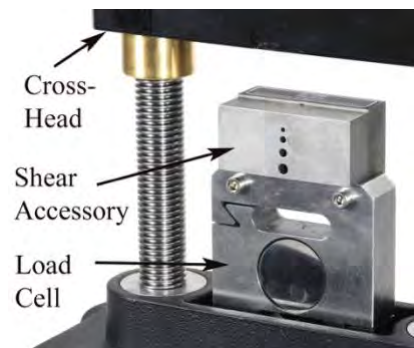

Figure 1: Shear Accessory
4. Fasten the Shear Accessory to the load cell using the two silver cap screws as shown in Figure 1.